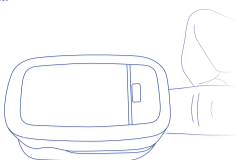

Figure 5. Put finger in position
- The finger should be placed properly (see the attached illustration of this manual, Figure 5), or else it may cause inaccurate measurement.
- Open the clip as shown in Figure 5.